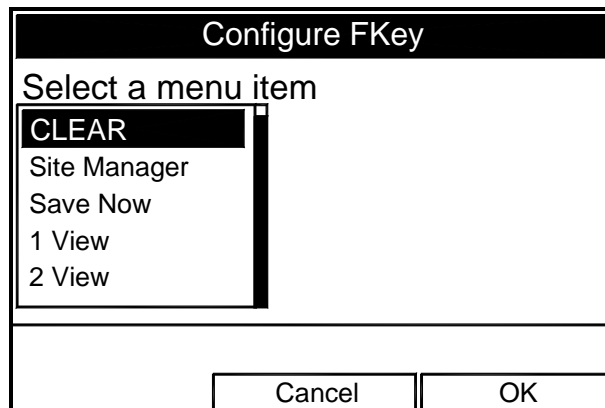

Figure 4-9: Configure FKey Window
2. Use the [▼] or [▲] arrow keys to move to the desired FKKey (1, 2 or 3) entry on the menu. Press [ENTER]. The Configure FKKey window opens, as shown in Figure 4-9 on page 4-9.